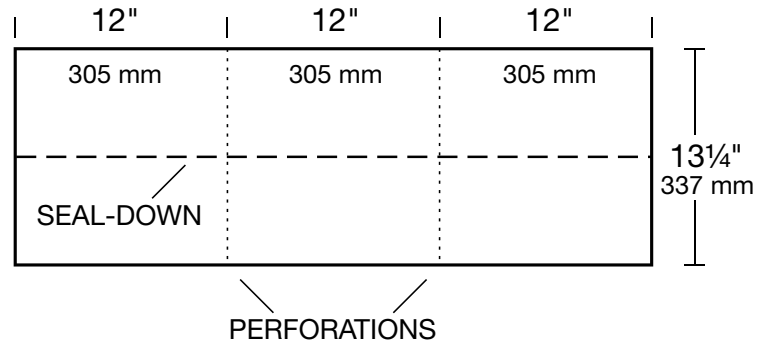

Figure 17 - 12" RidgeFlex[™] Hip and Ridge Shingle
RidgeFlex[™] produces three (3) **(see Figure 17)**. Note the seal-down strips.